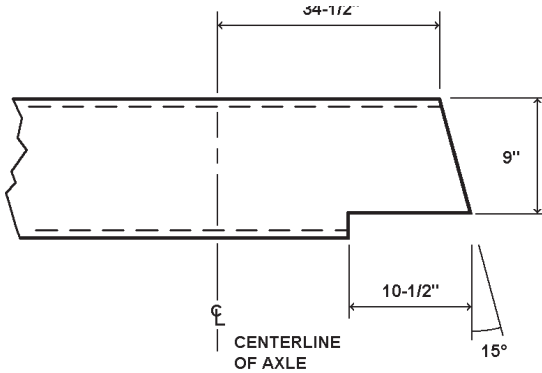

FIGURE 7.3
- (b) If frame rail width is greater than 10", frame rails must be notched as shown in Figure 7.3.